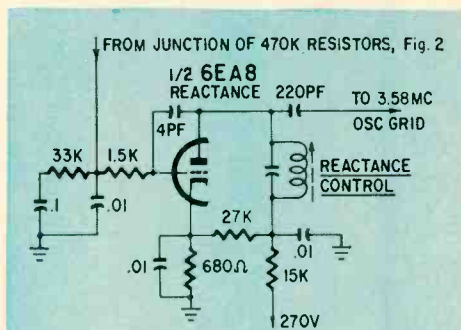

Fig. 3—Reactance tube thinks it's a coil or capacitor! Controls 3.58-mc oscillator. Some TV's used this to control horizontal oscillator.
3. Reactance tube (Fig. 3), which certainly should be familiar to all the old-timers. The same circuit is used in lots of older TV sets, to control the horizontal oscillator! Afpc, in other words.